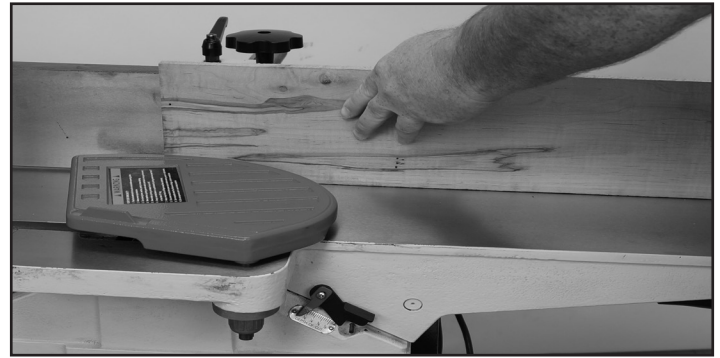

FIG. 20
4. Place the workpiece against the jointer fence for support through the cutting action. FIG. 20.